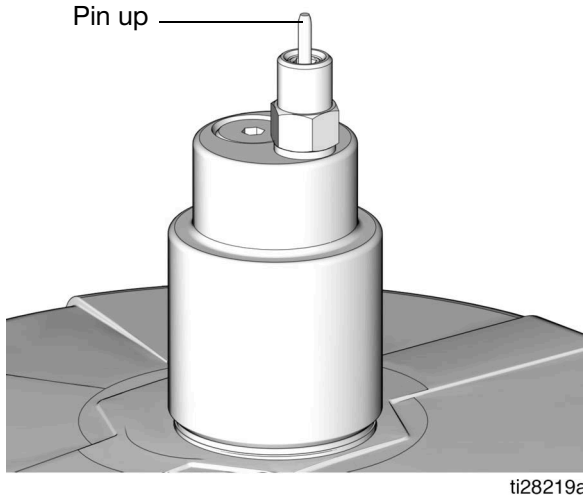

Fig. 18
3. Remove the yellow dust cover from the fill coupler (M).
4. Connect the supply hose (J) between the remote filling station pump (F) and the fill coupler port (marked with an "1").
5. Start the remote filling station pump (F).
6. When the G5 reservoir (D) is filled:
- the remote filling station pump (F) stalls (dead-heads),
- the auto-fill shut off valve pops up (FIG. 18),
- the pressure gauge (R) rises to the fill pump's set pressure.
2. Connect the supply hose (J) at the quick disconnect (V).
3. Turn on remote filling station pump (F) and fill the G5 reservoir (D) until the indicator pin on the auto-fill shut off valve (B) is pushed up (see FIG. 18). The pressure in the refill pump (F) increases and the pump stalls.
4. Turn off the air supply (H) to the refill pump (F).
6. Disconnect the supply hose (J) from the quick disconnect (V).